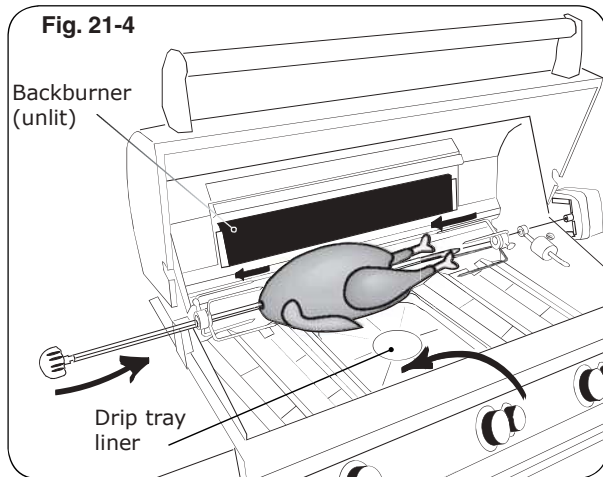

Fig. 21-4
4. Slide the left meat holder onto the rod (and tighten), the meat onto the rod and into the holder, followed by the right meat holder onto the rod and into the meat as shown in Fig. 21-4. Tighten the right meat holder. Be sure the meat is centered and balanced as well as possible.
11. To keep drippings off the burners and simplify cleanup, place Fire Magic® drip tray liners under the meat, if desired (Fig. 21-4).